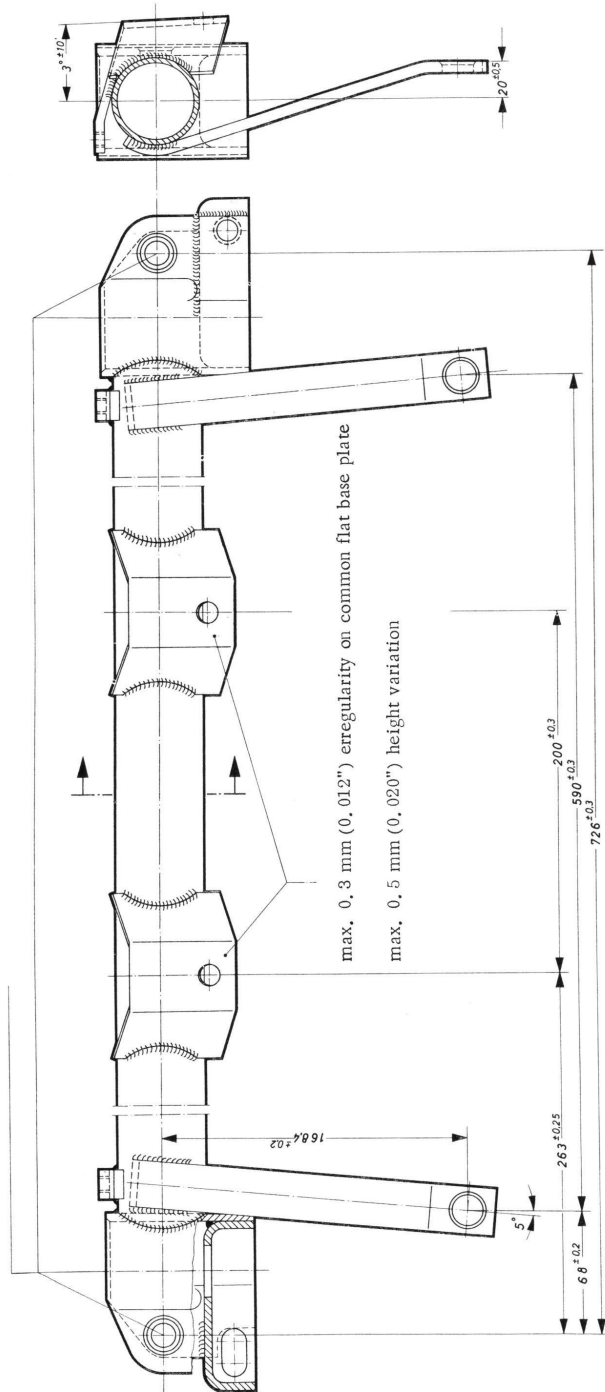

Fig. 21
1. Place the reinforcing crossmember onto a flat surface, such as a straightening plate, and check for deformation. See Figure 21 for test dimensions.